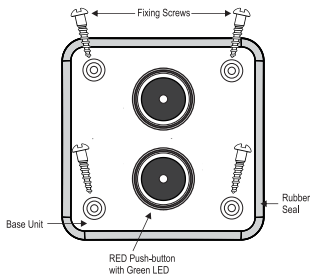

Fig.2
- Fasten base unit with the four fixing screws provided with the device package (see Fig.2)